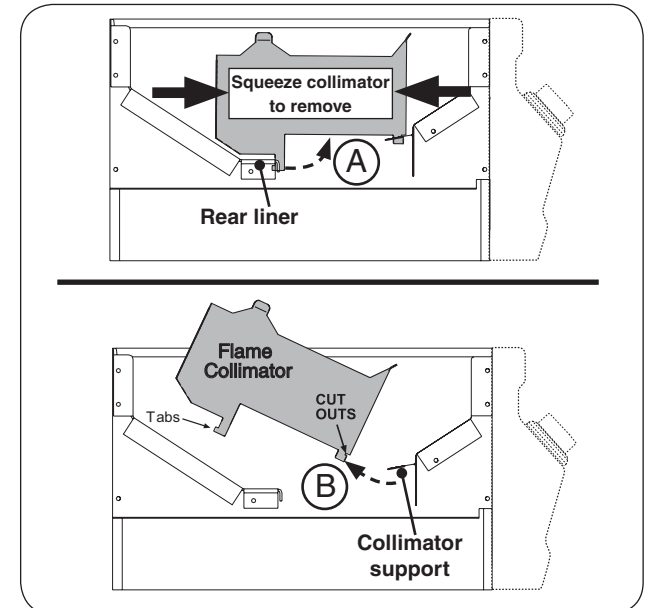

Fig. 26-2 Flame collimator removal
2. Lift up the interior protection plate from the left side, then lift up from the right side (see Fig. 26-2, A and B).
3. While lifting the plate upward, flex the collimator inward to completely free the protection plate (see Fig. 26-2, C).